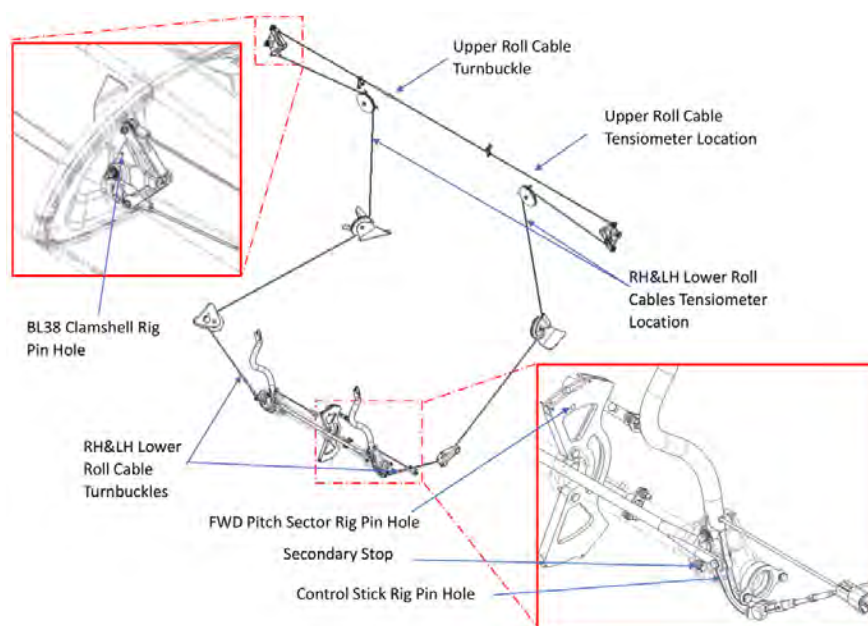

FIGURE 10-21
6. De-tension the affected lower flight control cable by removing the safety wire or turnbuckle clips and loosen the turnbuckle located at the torque tube entrance shown in Figure 10-21 below.